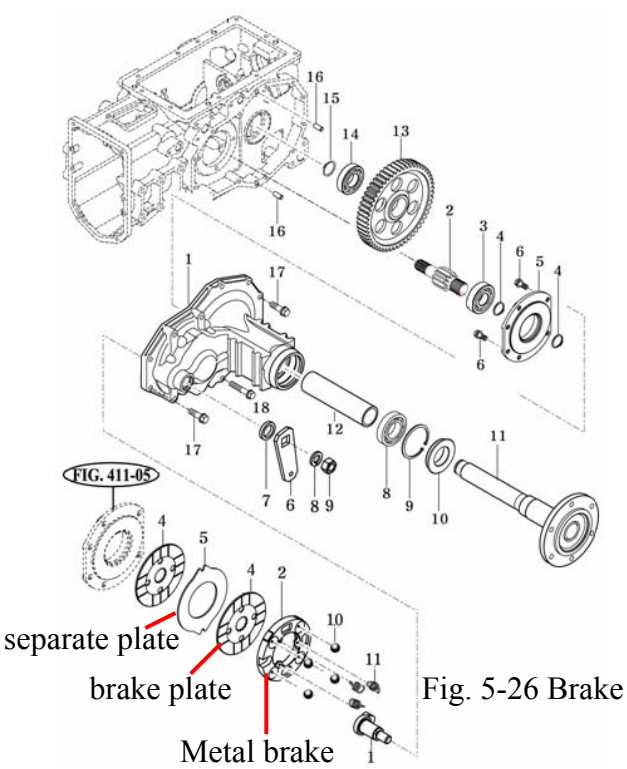

Fig. 5-26 Brake
- b. Disconnect Case Brake LH and Case Brake RH by loosening bolts as shown in Fig.5-26